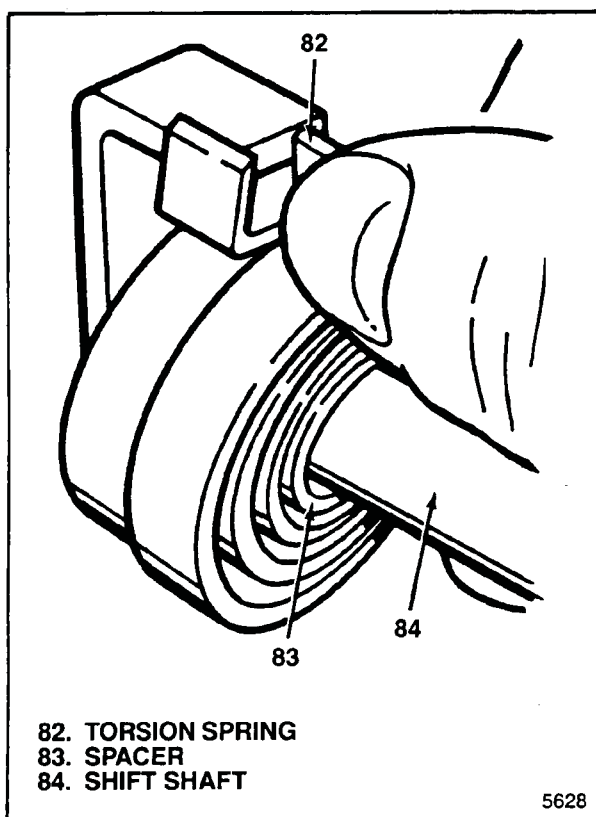

Figure 5-8. Installing Second Spring End
- c. Twist second spring (82) end to right of drive tang on shift shaft (84) (see figure 5-8).